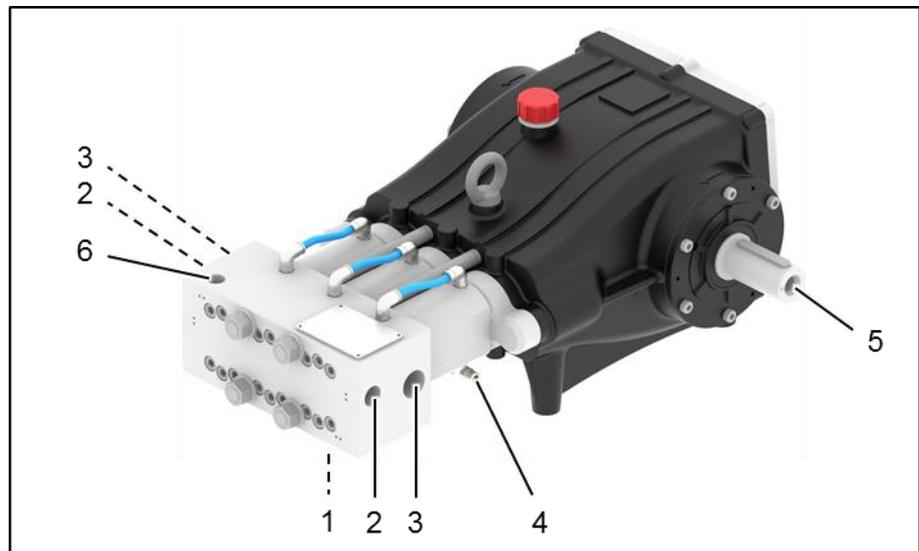

Figure 13: Pump interfaces (for illustration purposes only)
1. Connect the connecting lines as shown in Figure 13. We recommend using hose pipes to avoid transferring vibrations.
3. We recommended (automatic) ventilation valves for venting the pumped medium. To connect the inlet pressure line, you need a G 1" connection (inlet pressure side, see Figure 13: 3). To connect the high-pressure line, you need a M24x1.5 connection (pressure side, see Figure 13: 2). Hose retainers should also be used.